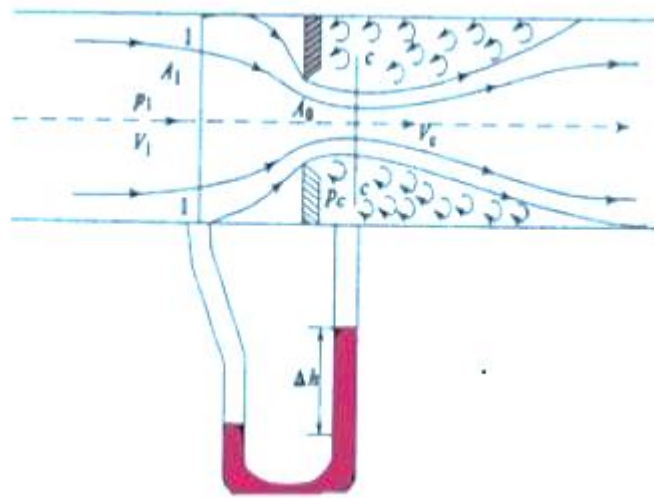

Figure 2. Orifice meter
3.1 Calculate the coefficient of discharge of Orifice Meter shown in figure 2.